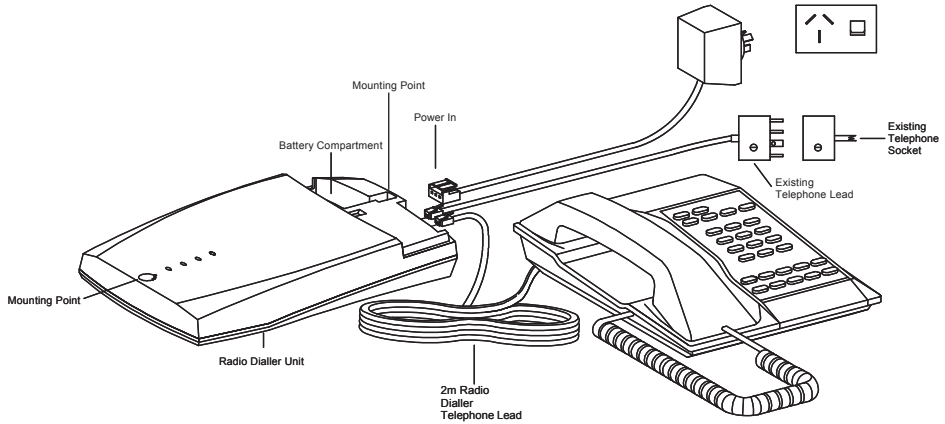

FIG1. Connection Diagram Australia.
4. Unplug the incoming line cable from the existing telephone and plug it into the Radio Dialler’s LINE socket. (See FIG1).